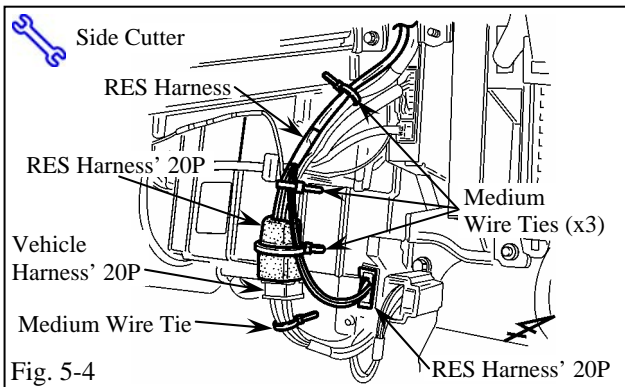
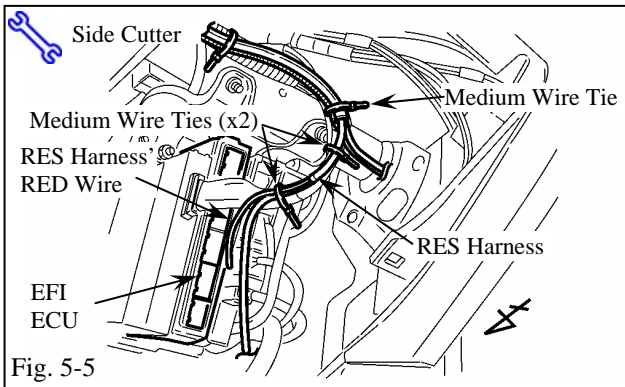

Fig. 5-4
Fig. 5-5
- (f) Plug in the RES harness' white 20P connectors between the vehicle harness' 20P connector and the connector block. (Fig. 5-4)
- (1) Verify the connectors are plugged in securely.
- (g) Secure the 20P connectors to the RES harness with one medium wire tie. (Fig. 5-4)
- (h) Secure the RES harness to the vehicle harness with three medium wire ties. (Fig. 5-4)
- (1) Be sure the cut end of each wire tie is turned away from the vehicle harness.
- (i) Route and secure the RES harness to the vehicle harness with one medium wire tie. (Fig. 5-5)
- (j) Route the RES harness' RED wire toward the EFI ECU, then secure the RES harness to the vehicle harness with two medium wire ties. (Fig. 5-5)